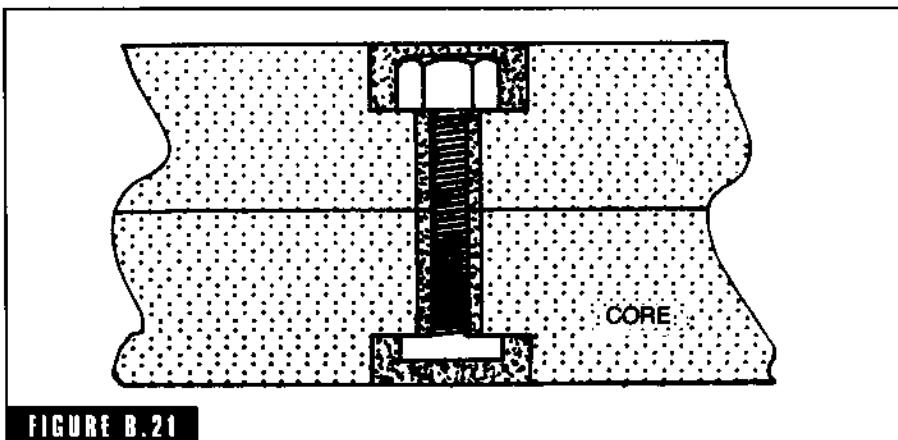

FIGURE B.21
**bolted cores** The practice of bolting cores together, when it is felt that pasting could fail due to the pressure involved in pouring a particular (design) casting (Fig. B-21). The cores are drilled and countersunk or provisions are made in the core box to form the bolt holes. After bolting, the countersink recess must be filled and muddled. Separate cores can be made and baked and simply glued in place. The joint is then muddled.